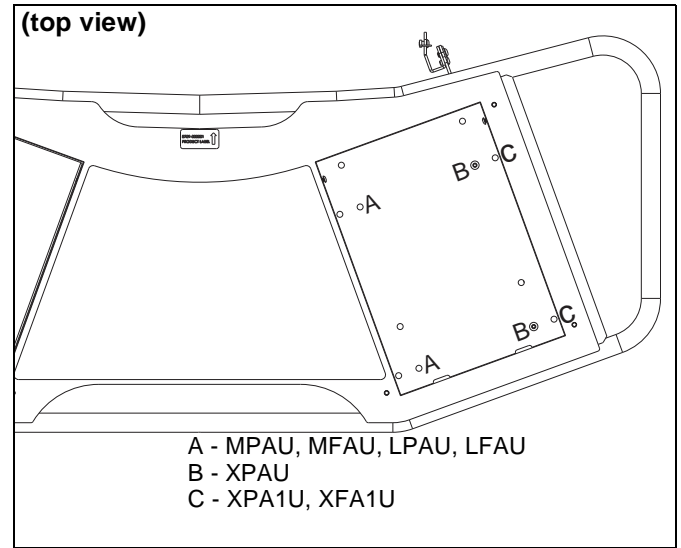

Figure 7
**NOTE:** The exact holes to use will depend on the model of the mounting system. Refer to Figure 7 to determine which holes to use.